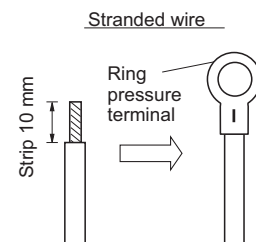
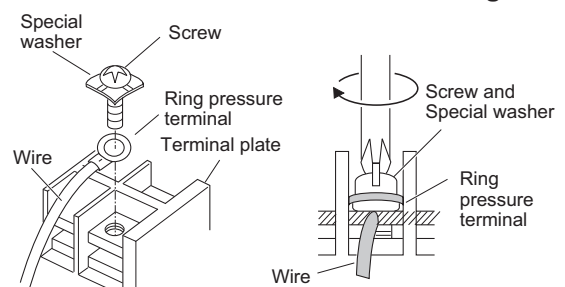

Fig. 1-3
Fig. 1-4
- (1) Cut the wire end with cutting pliers, then strip the insulation to expose the stranded wiring about 10 mm and tightly twist the wire ends. (Fig. 1-3)
- (2) Using a Phillips head screwdriver, remove the terminal screw(s) on the terminal plate.
- (3) Using a ring connector fastener or pliers, securely clamp each stripped wire end with a ring pressure terminal.
- (4) Place the ring pressure terminal, and replace and tighten the removed terminal screw using a screwdriver. (Fig. 1-4)